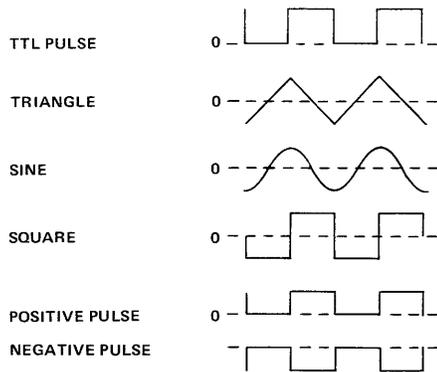
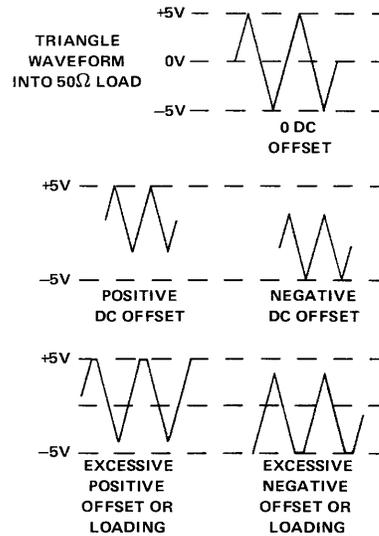

Figure 3-4. Pulse/Waveform Phase Relationship and Waveform Reference Lines
Figure 3-5. DC OFFSET Control
(8) Synchronizing Pulse Output Connector
A fixed amplitude (0 to about 5V) TTL pulse of the generator frequency is provided at the PULSE OUT connector. This output can be used as a synchronizing reference for the main output (6). Phase of the waveforms relative to the sync output is shown in figure 3-4.
⑨ DC OFFSET Control
Offset of waveforms and dc voltage are controlled by the DC OFFSET control. The WAVEFORM switch ⑩ must be in one of the four right-hand settings. Center of the waveform reference (figure 3-4) is skewed positive with clockwise rotation, negative with counterclockwise rotation. Offset and dc voltage maximums are  $\pm 5V$  ( $50\Omega$  terminated). See figure 3-5 for restrictions.
⑩ WAVEFORM Selector